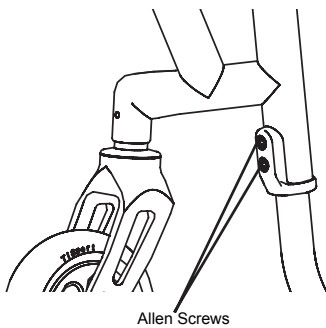

Figure 115
4. Loosen, but do not remove, the Allen Screws in the footrest clamps as shown in Figure 115. **Note:** Figure 115 depicts the footrest clamps on the TR Series. If you have a different model, locate the corresponding screws that secure the footrest assembly to the frame.